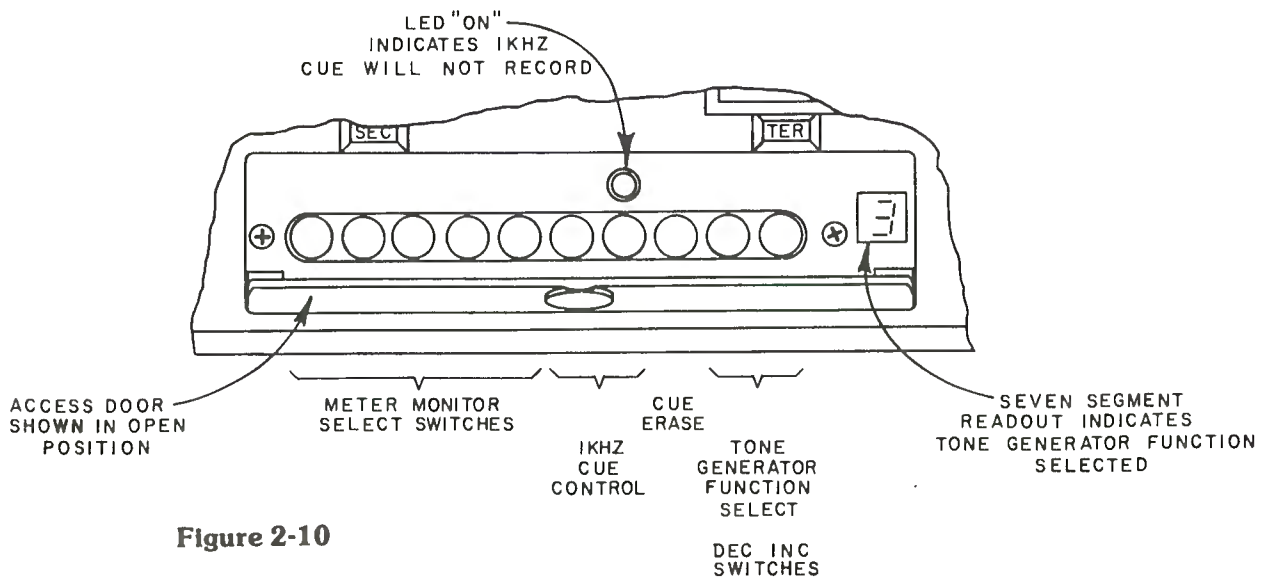

Figure 2-10
15. Cue Erase Switch — Active only in playback after first 1.5 seconds of tape travel. This prevents accidental erasure of primary cue tone which, if desired, can be erased when tone appears again at end of tape. Erases cue track data only during the time the switch is pressed. See Figure 2-10.